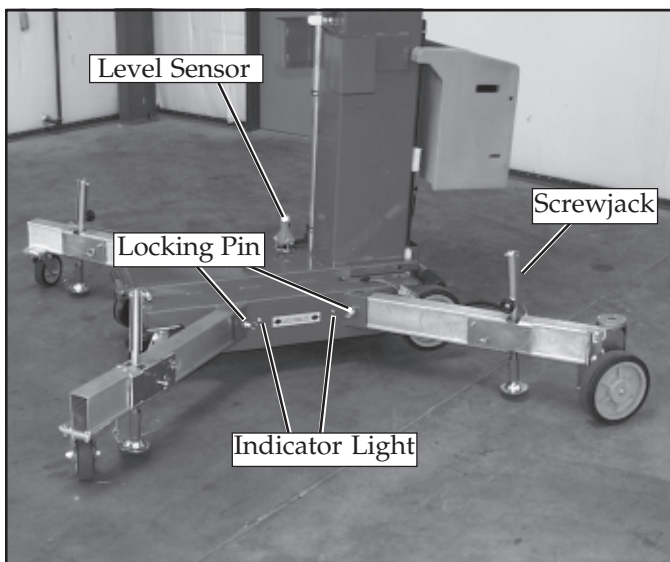

Figure 1: Installing outriggers
2. Insert into outrigger socket in base (Figure 1).
4. Repeat the above steps for all other outriggers. Make sure all four (4) locking pins are engaged.
5. Level the base, centering the bubble in the orbit level on the base by adjusting the screwjacks at the end of each outrigger (Figure 1). **DO NOT** release the tension on an outrigger, by turning counterclockwise, to level base.